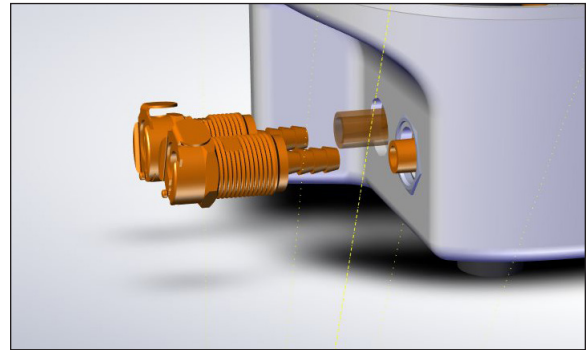

Figure 84 - Step 7 Insert couplings into hose
7. Heat the PVC tubing ends and push them onto the quick disconnects (Figure 84).